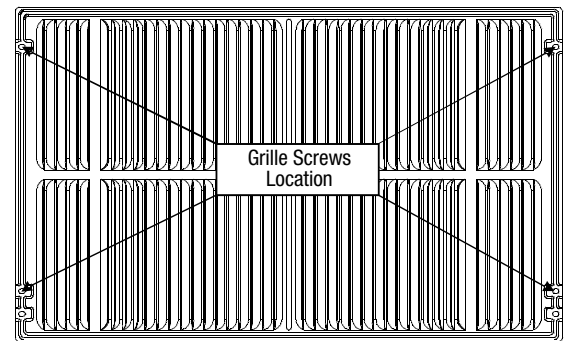

FIG. 2
24. If the unit has not been pre-drilled (some models), carefully drill 4 - 1/8" holes through the grille and into the side flange of the unit approximately 1 1/2" to 2" from the top and bottom as in **FIG. 2** and **FIG. 3**. (Be careful not to drill into copper heat exchange coils).